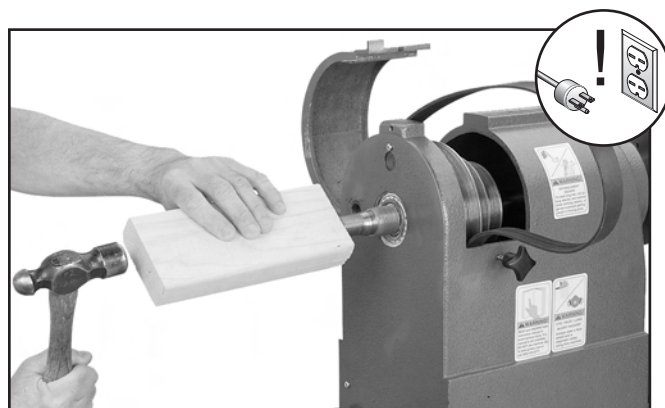

Figure 63. Loosening spindle.
9. While an assistant holds the inboard end of the spindle and pulls it toward the tailstock, use a hammer and 2x4 to drive the outboard end of the spindle toward the tailstock, as shown in **Figure 63**. This will expose the inboard spindle bearing.